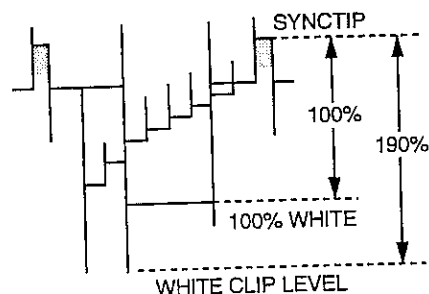

Figure 5-5.
1. Connect a oscilloscope to pin(48) of IC401 and GND.
3. Make sure that the overshoot of the video signal is clipped at 190% as shown in Figure 5-5.